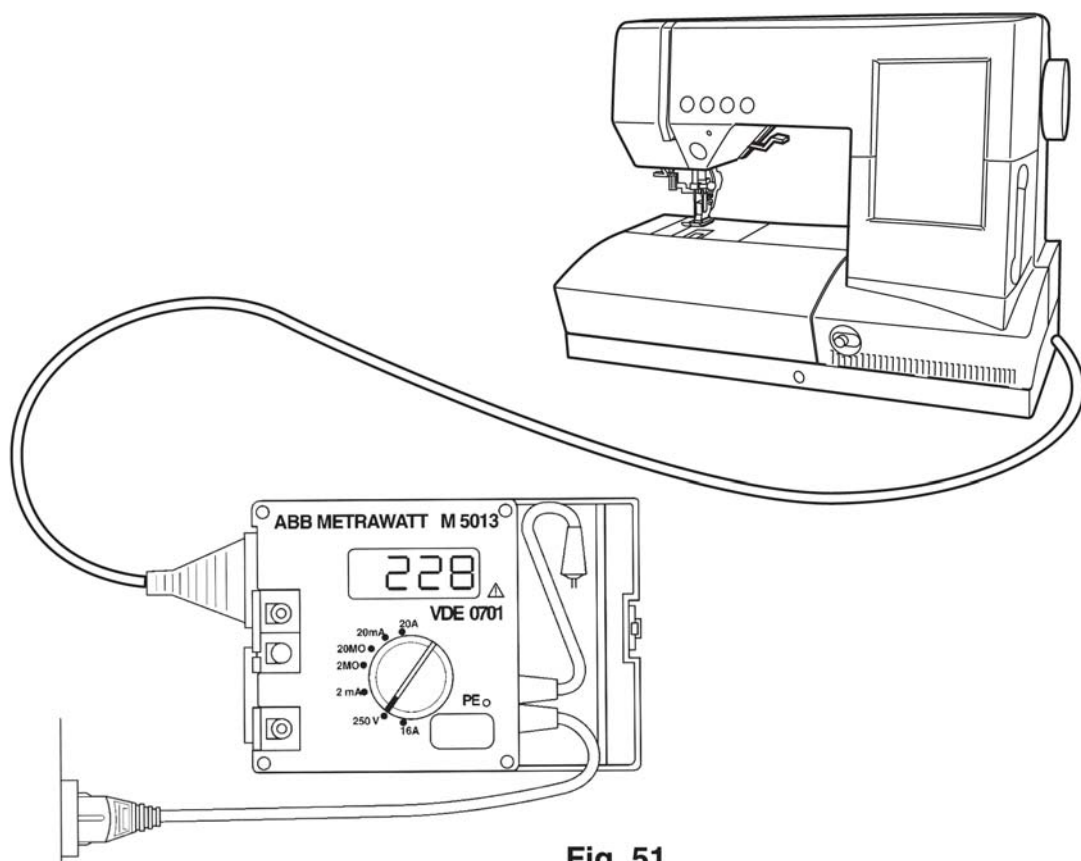

Fig. 51
- Set the testing range switch at „**250 V**“ (fig. 51).